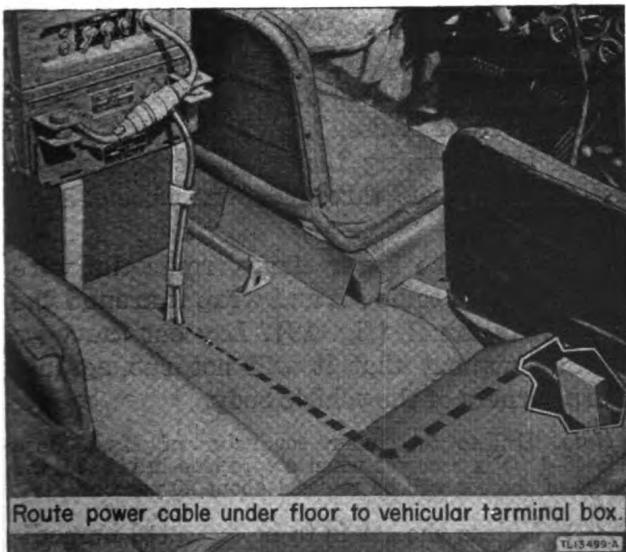
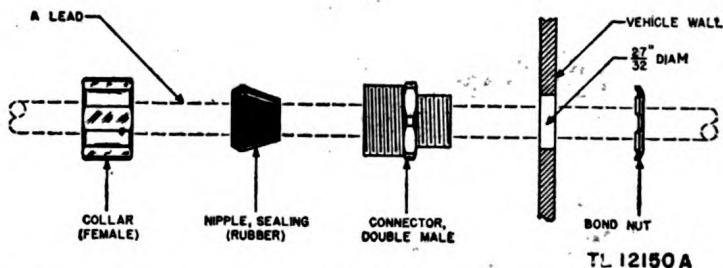

Figure 23. Radio Set SCR-610-( ), routing power cable to vehicular terminal box.
Figure 24. Connector and bondnut, installation detail.
d. Select positions for the mast base and the shock mounting before either of the two units is mounted in position (refer to the appropriate manual of the TM 11-2700 series). After the shock mounting is fastened down, place the power supply unit and Radio Receiver and Transmitter BC-659-( ) in position; fasten the catch-clips. Connect the power cable plug of the radio receiver and transmitter to the corresponding receptacle of the power supply unit, making sure that they are matched properly and screwed together securely. Be careful to place the key in the keyway. Do not force the connectors in any other position. Screw the knurled coupling nut down securely to prevent disconnection during operation. Connect the power cable leads to the vehicular battery, or to the terminal box provided by the vehicle manufacturer (fig. 23). The terminals on the ends of this cable on Plate Supply Unit PE-117-C are marked + and —. On Power Supply Unit PE-120-A, the positive (+) is identified by red and white wires, and the negative (—) by green and black wires. Be sure that the + terminal is connected to the positive side of the battery and the — terminal to the negative side of the battery. Route the cable so that it is out of the way and protected as much as possible (fig. 23). If it is necessary to pass the cable through a wall, use the connector and bondnut (fig. 24).